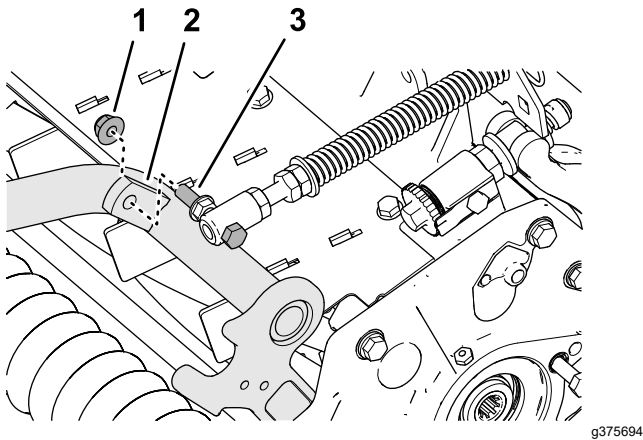

Figure 19
4. Assemble the capscREW of the turf compensation spring to the right tab of the carrier frame (Figure 19) with the flange locknut (3/8 inch).